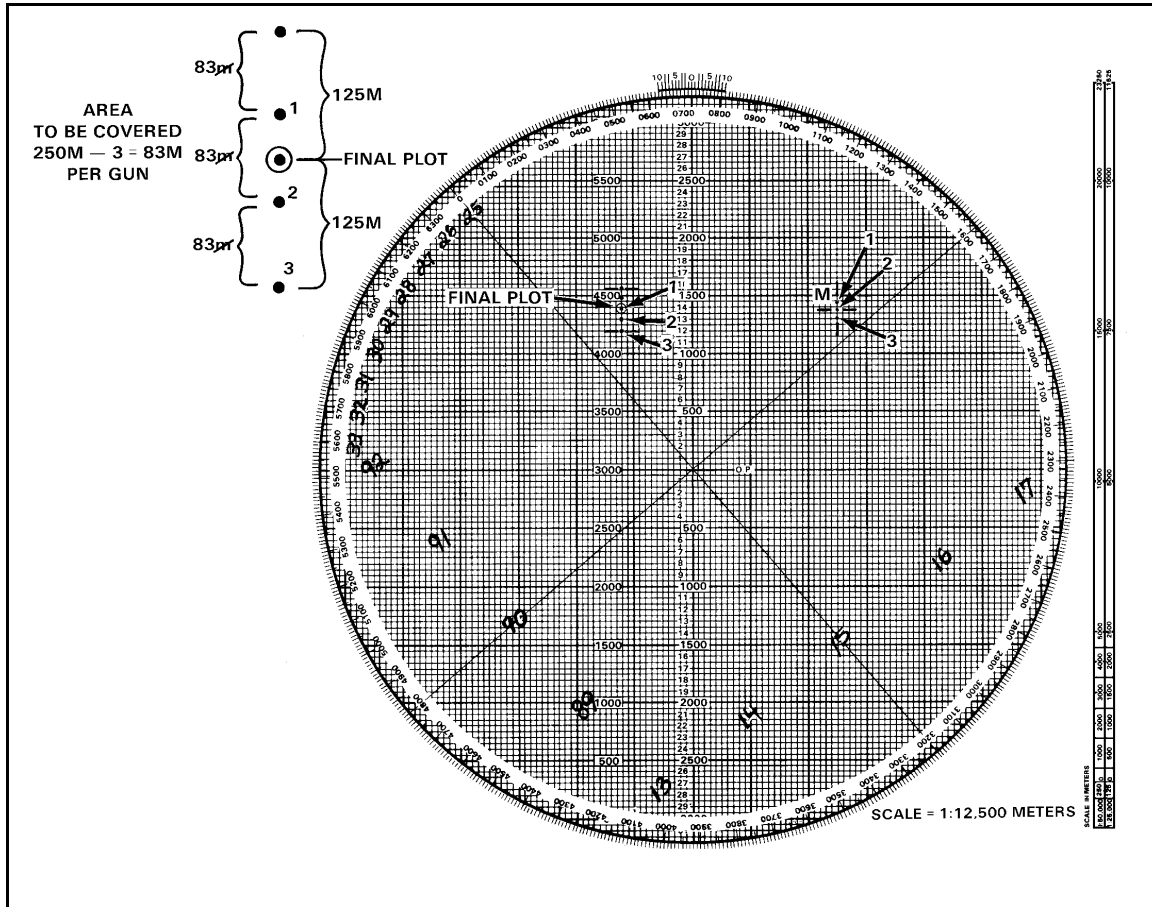

Figure 13-3. Plotting of starting points.
c. To plot the target on the plotting board, the computer rotates the azimuth disc until the target attitude (taken from the call for fire) is indexed. The computer erases all the plots except the last plot. After ensuring that the attitude is indexed, the computer divides the total target area into segments. These plots represent the starting points for each mortar. The area between the plots is the area each mortar must cover with fire (Figure 13-3).